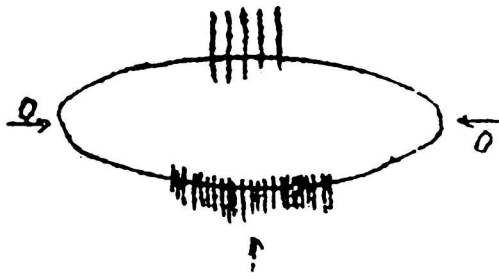

Fig. 20a
e) Tip corona in liquid medium (Fig. 20a), waveform characteristics: discharge occurs in two and a half cycles, symmetrically distributed in two voltage peaks. Each group of discharge is equal interval, but a group of larger amplitude discharge appears first, and increases with the increase of test voltage, not necessarily equal amplitude: a group of small amplitude discharge amplitude is equal, and does not change with voltage (as shown in Fig. 9b). Cause: the tip or edge discharge in insulating liquid, if a group of large discharge occurs in positive half cycle, the tip is at high voltage; if it appears in negative half cycle, the tip is at ground potential.